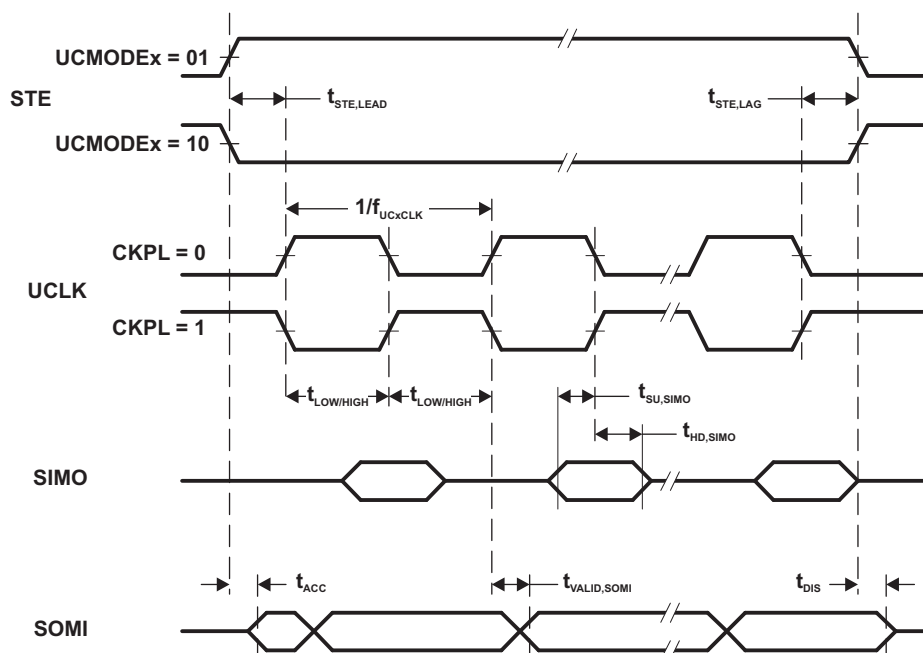
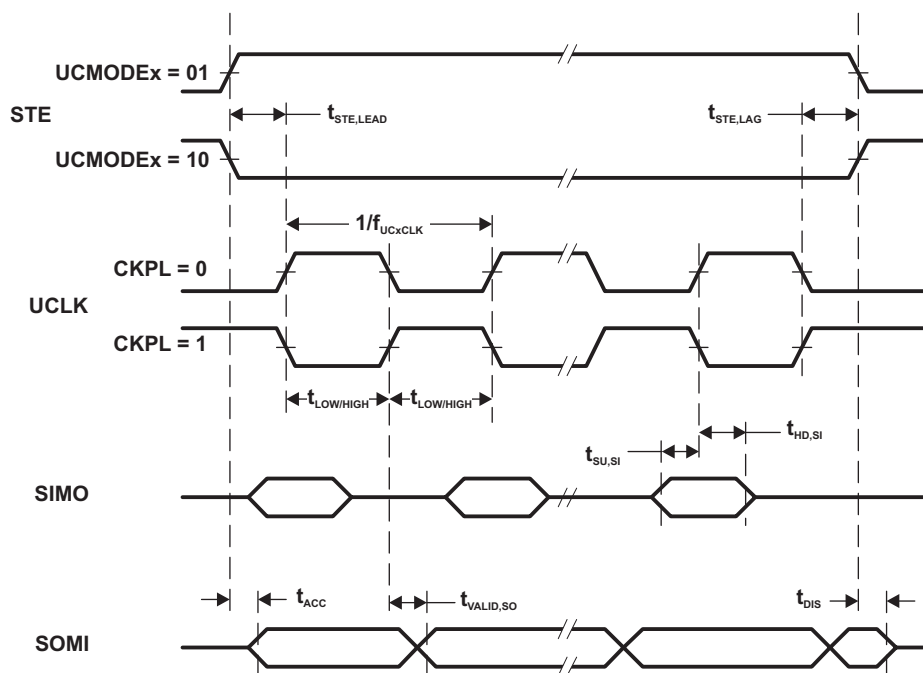

Figure 5-8. SPI Slave Mode, CKPH = 0
Figure 5-9. SPI Slave Mode, CKPH = 1
- (1) $f_{UCLK} = 1/2t_{LO/HI}$ with $t_{LO/HI} \geq \max(t_{VALID,MO(Master)} + t_{SU,SI(eUSCI)}, t_{SU,MI(Master)} + t_{VALID,SO(eUSCI)})$. For the master's parameters $t_{SU,MI(Master)}$ and $t_{VALID,MO(Master)}$ see the SPI parameters of the attached slave.
- (2) Specifies the time to drive the next valid data to the SOMI output after the output changing UCLK clock edge. See the timing diagrams in Figure 5-8 and Figure 5-9.
- (3) Specifies how long data on the SOMI output is valid after the output changing UCLK clock edge. See the timing diagrams in Figure 5-8 and Figure 5-9.